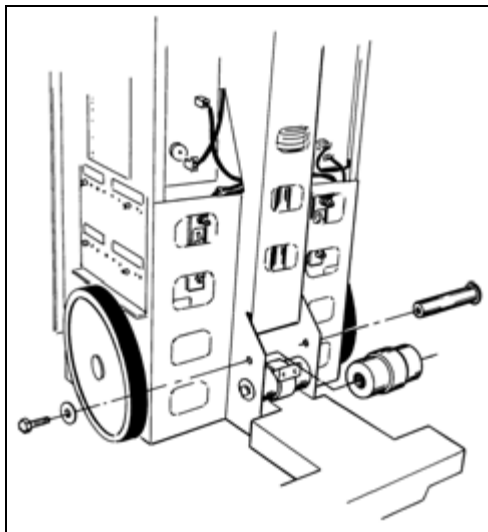

Fig. 66: Vertical friction
- Remove the screw and washer from the upper counter bearing (Fig. 66 / p. 74).